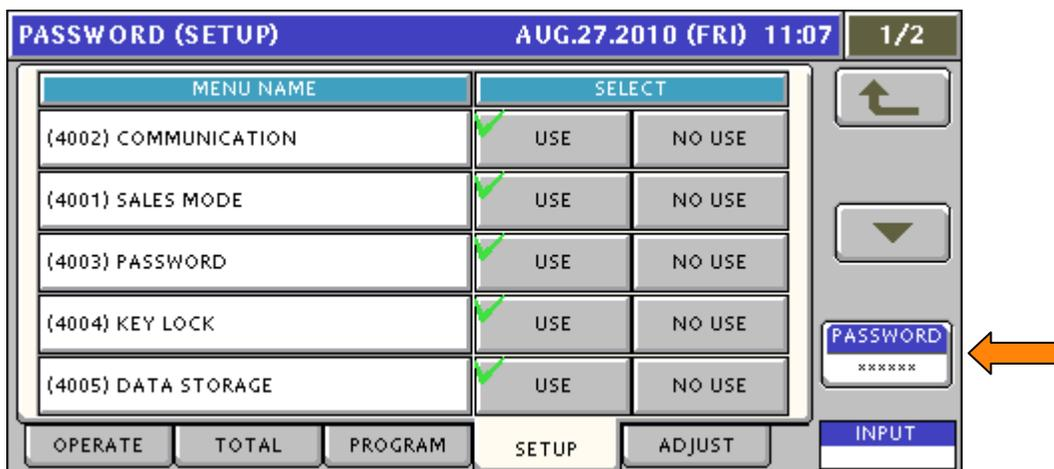

Figure 10.1. Password Setup
3. The Manager's password is set in Setup menu, Password. See Figure 10.1.